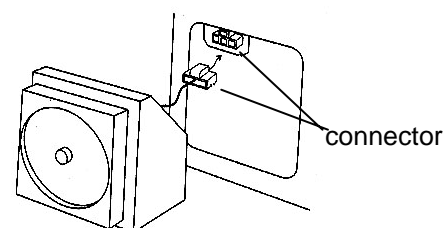

Fig. 5
8. Connect the connector on recorder with that on the unit. See Fig. 5